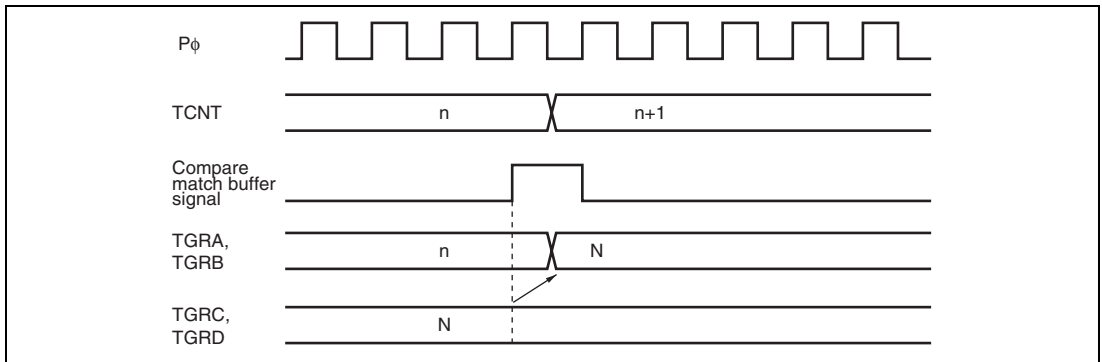

**Figure 11.62 Buffer Operation Timing (Compare Match)**
**Buffer Operation Timing:** Figures 11.62 and 11.63 show the timing in buffer operation.